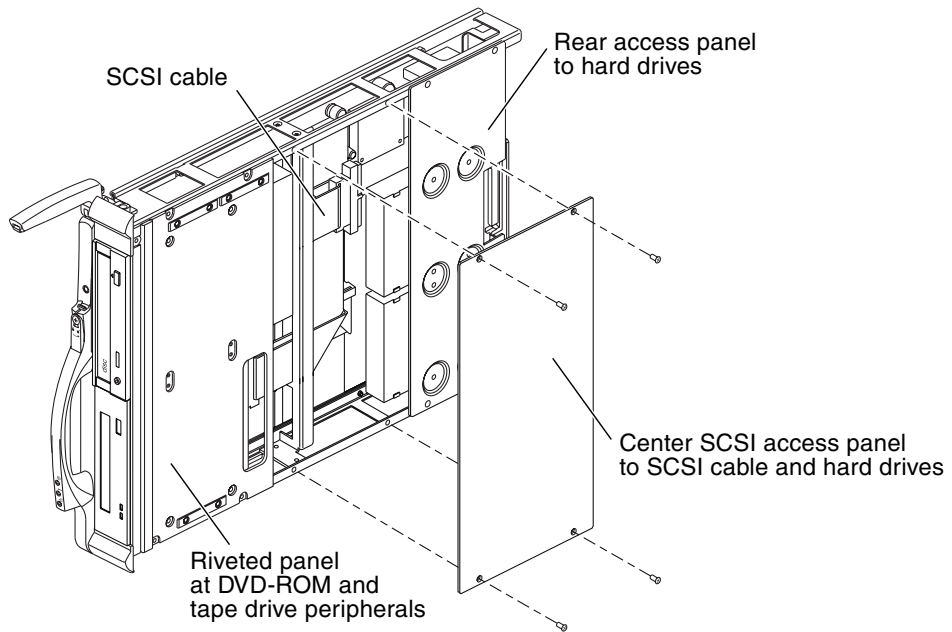

FIGURE 7-2 SC Peripheral Board and Center Access Panel—Exploded
4. To access the internal components of the SC peripheral board, remove the four (4) M3x6 flathead screws from the center SCSI access panel, as shown in FIGURE 7-2.